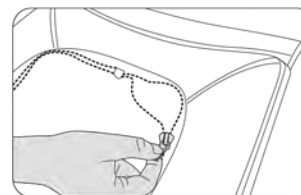

Figure 3
- Zip the backrest kneading cloth open completely, and put the cloth on the top of the chair (Note: Please remember to prevent the kneading cloth from getting dirty or damaged). (Figure 3)